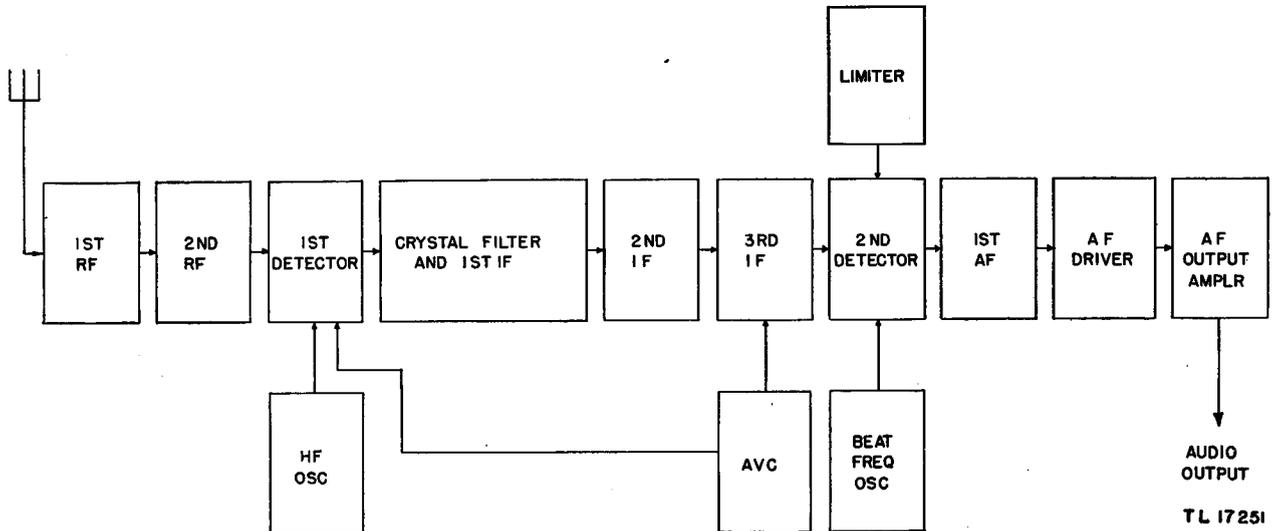

Figure 3. Radio Receiver BC-779-B, block diagram.
## 2. Over-all System Function (fig. 3)
a. GENERAL. The receiver uses a superheterodyne or double detection type of circuit for reception of modulated and continuous-wave a-m signals. The over-all system function may be understood by reference to figure 3.